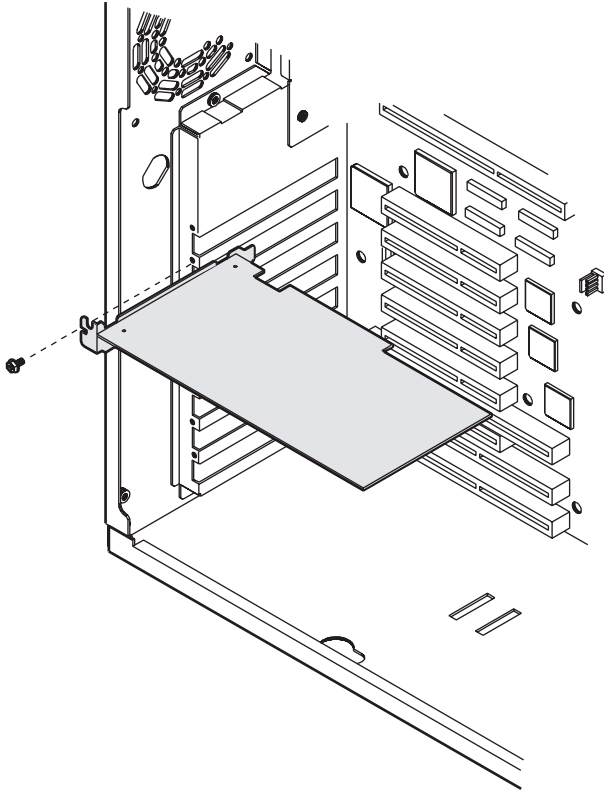

Figure 25: Adding an Expansion Card
6. Firmly insert the edge of the expansion card into the slot (see Figure 25).